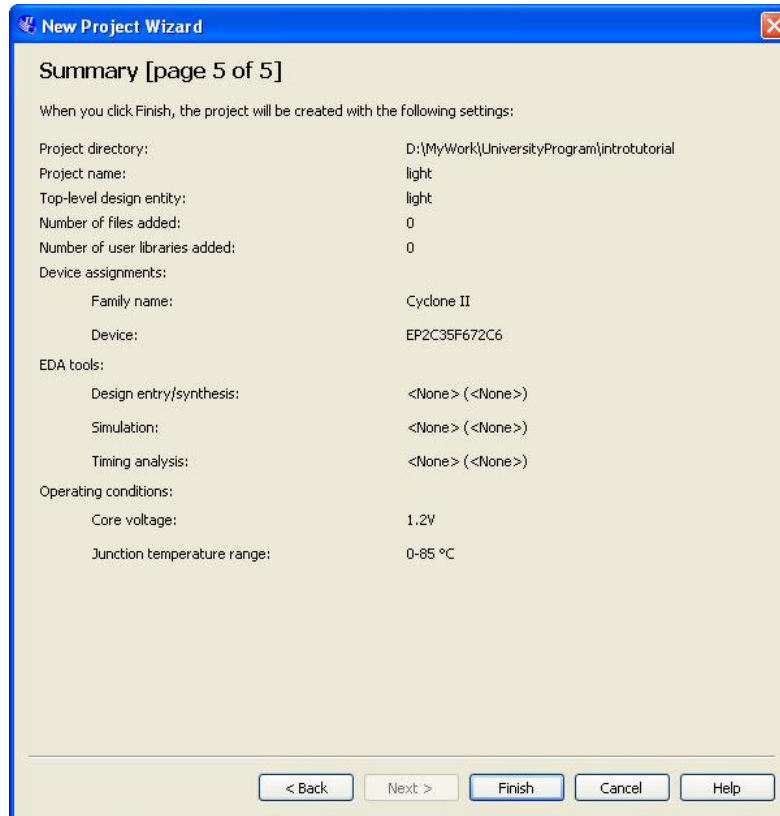

Figure 9. Example summary of a DE2 board project settings.
6. A summary of the chosen settings appears in the screen shown in Figure 9. Press Finish, which returns to the